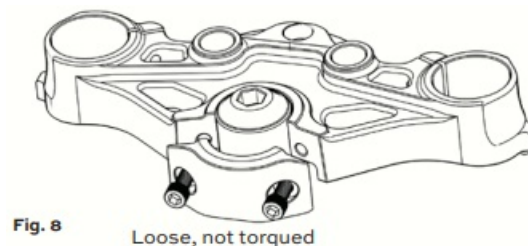

Fig. 8
13. Install the top nut clamp onto the top tree. Tighten screws until lightly seated, so fall away can be set later. (See fig. 8)